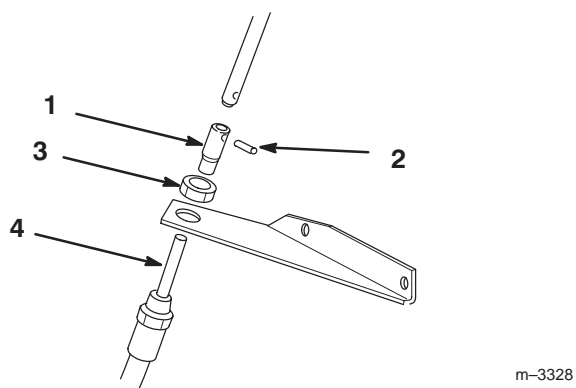

Figure 13
8. Mount coupler to end of crank shaft with a roll pin (Fig. 13).
9. Slide the 1-13 locknut (Fig. 13) onto crank shaft while inserting flexible shaft up through mounting hole in bottom bracket and into crank shaft coupler. Thread 1-1/16-12 locknut onto flexible shaft and tighten.